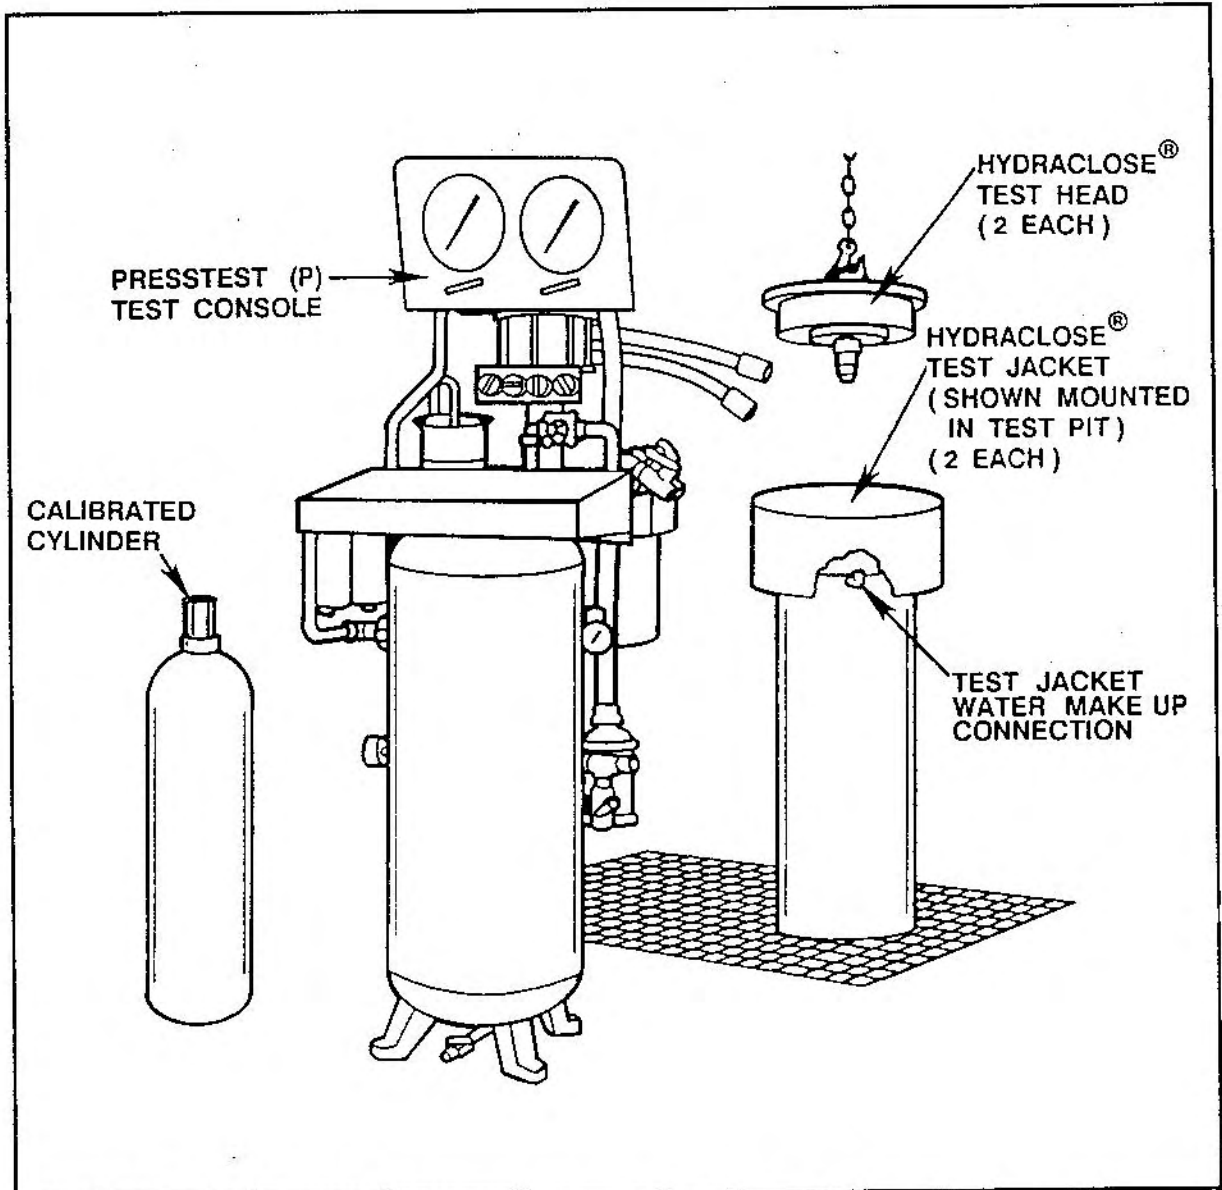

FIGURE 1) PRESSTEST TEST SYSTEM COMPONENTS
11. Connect the Jacket Water Make Up Line from the control console to the Test Jackets as shown in Figure 1. Since the Presstest test system includes two test jackets, a "T" must be installed in the Jacket Water Make Up Line and connected to both jackets.